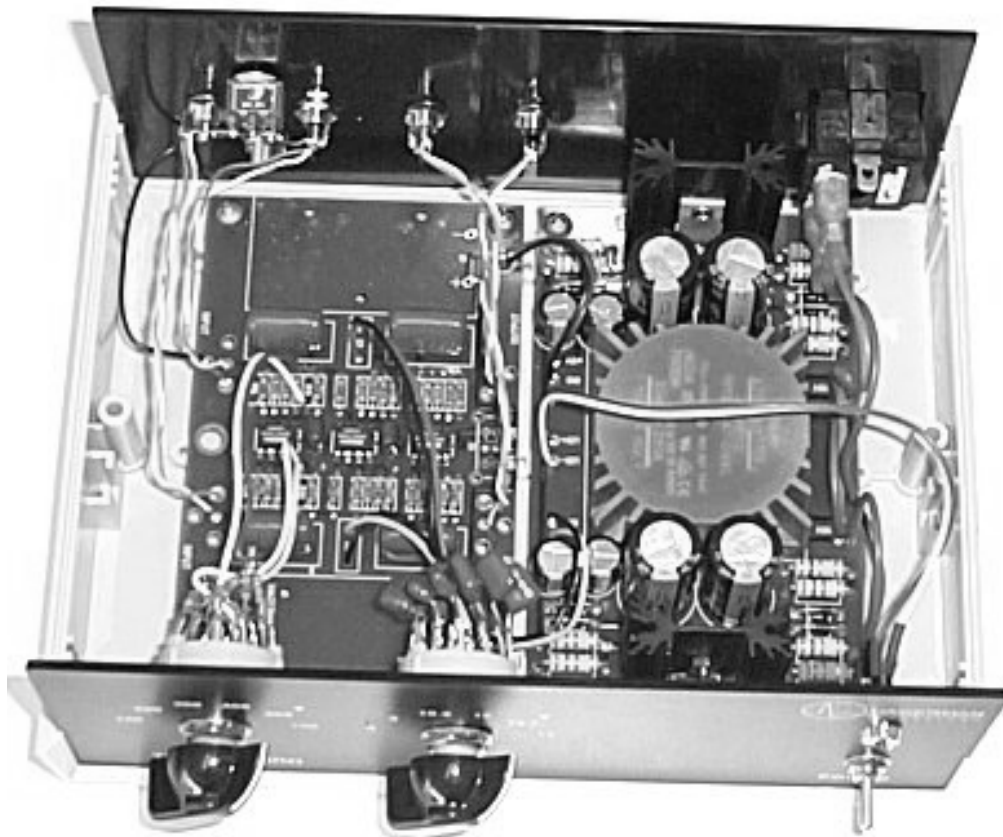

Figure 4. Wiring of components.
- ❑ Use the blank circuit boards to mark mounting holes on the bottom chassis cover (see Figure 4). Boards should be centered within plastic bosses. Drill 9/64" holes (#6 screw).
- ❑ Mount circuit boards into chassis. See Figure 4.